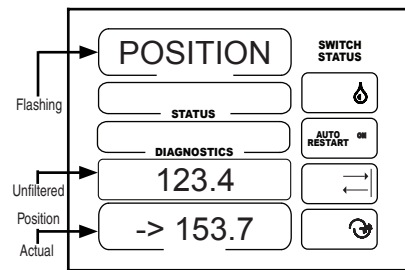

Figure 28-3
1. POSITION should be flashing and both the unfiltered position and current position values are displayed. See figure 28-3.